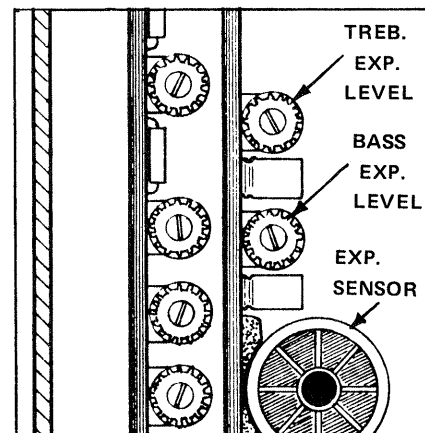
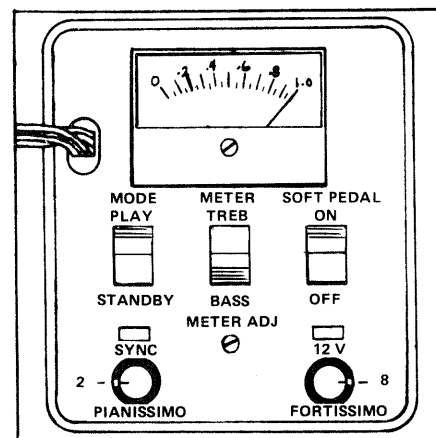

FIGURE 9-71 Bass and Treble Expression Level Controls.
FIGURE 9-72 Test Box settings.
- A. To decrease the Bass Expression Level (which corrects the first trouble stated above), turn the Bass Expression Level Control (see FIGURE 9-71) CLOCKWISE SLIGHTLY while playing the two Keys pianissimo and fortissimo and observing the Test Box Meter. Continue adjusting the Control until the Meter registers correctly during this test, then proceed to STEP 9-90.
- B. To increase the Bass Expression Level (which corrects the second trouble stated above), turn the Bass Expression Level Control (see FIGURE 9-71) COUNTERCLOCKWISE SLIGHTLY while playing the two Keys pianissimo and fortissimo and observing the Test Box Meter. Continue adjusting the Control until the Meter registers correctly during this test, then proceed to STEP 9-90.
On the Test Box, set the METER - TREB/BASS Switch to TREB (see FIGURE 9-72) and leave all other controls as set previously. Select two (2) Keys at the center of the Treble half of the Keyboard and trill them (use the same two fingers as you used to play the Bass Keys). Begin playing pianissimo and gradually build to fortissimo. As you play, observe the reading on the Test Box Meter - it should register in the same manner as it did for the Bass in STEP 9-89. If the Meter displays the first trouble stated in STEP 9-89 during the playing of the Treble Keys, turn the Treble Expression Level Control (see FIGURE 9-71) COUNTERCLOCKWISE to decrease level. If the Meter displays the second trouble stated in STEP 8-89, turn the Treble Expression Level Control CLOCKWISE to increase the level.